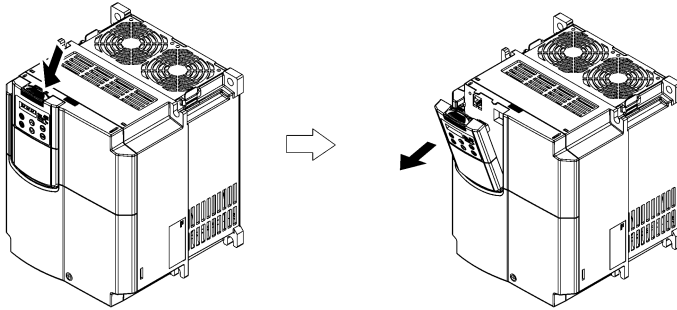
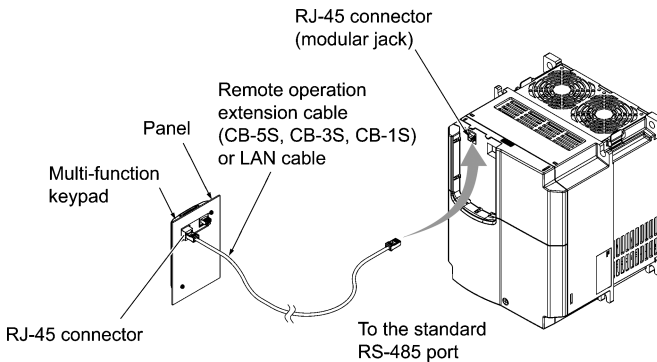

Figure 2.4 Removing the Remote Keypad
Figure 2.8 Connecting the Multi-function Keypad to the Inverter with Remote Operation Extension Cable or an Off-the-shelf LAN Cable
- (1) If a remote keypad is mounted on the inverter, remove it by pulling it toward you with the hook held down as directed by the arrows in Figure 2.4.
- (3) If a remote keypad is mounted on the inverter, remove it (see Figure 2.4) and, using a remote operation extension cable or a LAN cable, interconnect the multi-function keypad and the inverter (insert one end of the cable into the RS-485 port with RJ-45 connector on the multi-function keypad and the other end into that on the inverter) (See Figure 2.8).